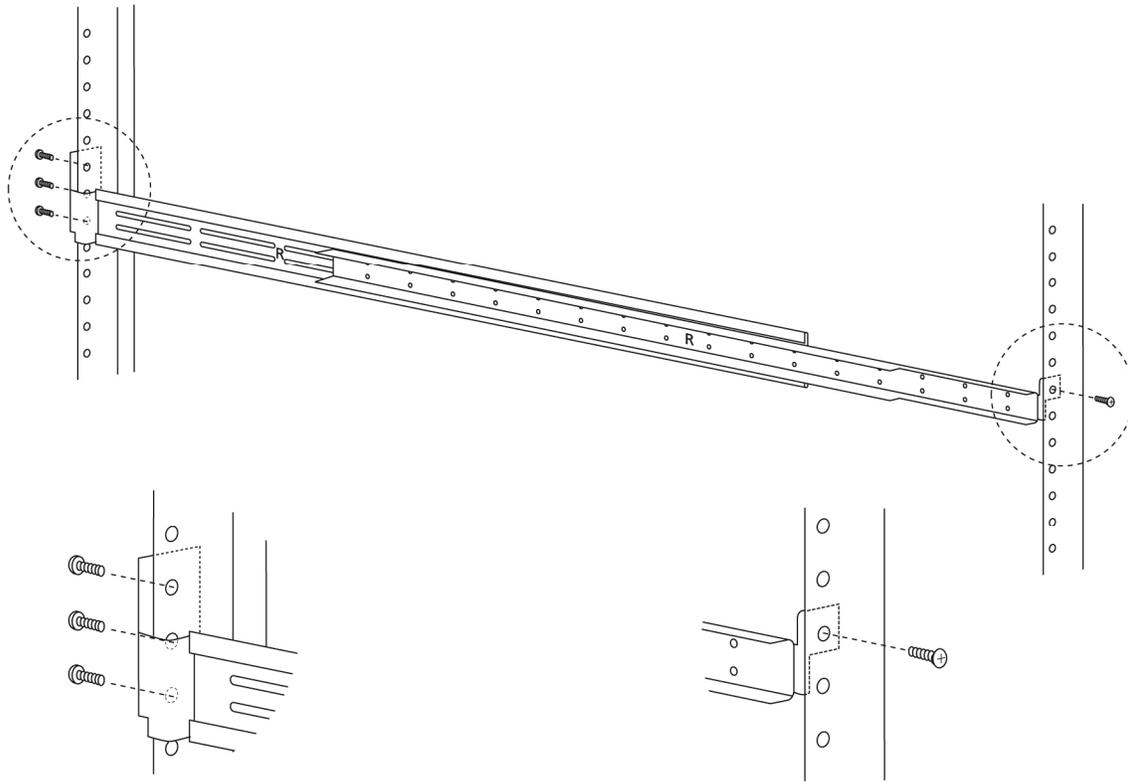

Figure 5. Screwing Side Supports to Rack
1. Using screws that you provide, attach the right-side support to the rack as shown in Figure 5.